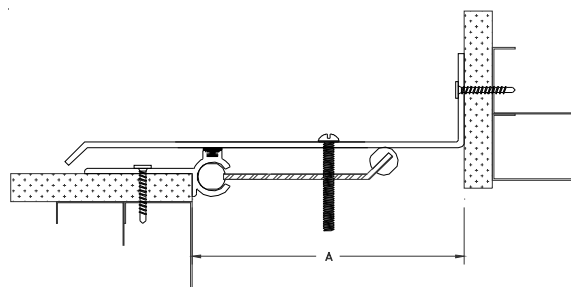

Figure 11
STEP 15. Attach the cover plate to the centering bars by tightening the centering bar bolts (see Figure 11). Tighten the centering bar bolts by hand. Do Not Overtighten the Centering Bar Bolts.